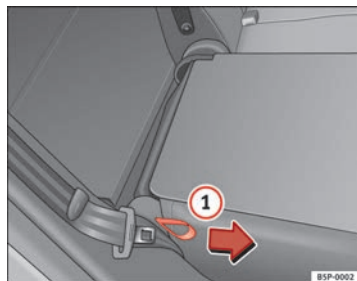

Fig. 97 Folding or opening the rear seat backrests
- Pull the loop on the side of the seat ⇒ Fig. 97 ①.